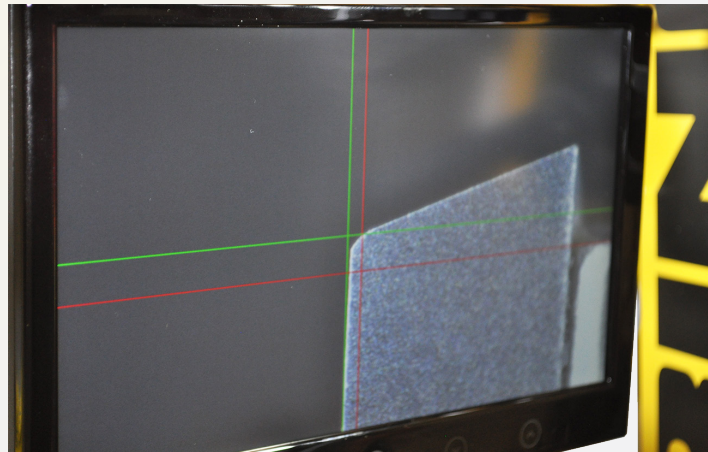

Fig. 11: Axial side clearance of cutting edge
4. Set the cutting edge of the tool by means of the axial adjusting screw (7) to the axial final position. Use an SW 1.5 Allen key. The cutting edge should lie on the intersection of the red vertical and the green horizontal line (see figure 11). By turning the axial adjusting screw (7) to the right the cutting edge moves in upwards and then in downwards direction. The setting of the axial side clearance needs to be made in the upwards direction of the cutting edge.